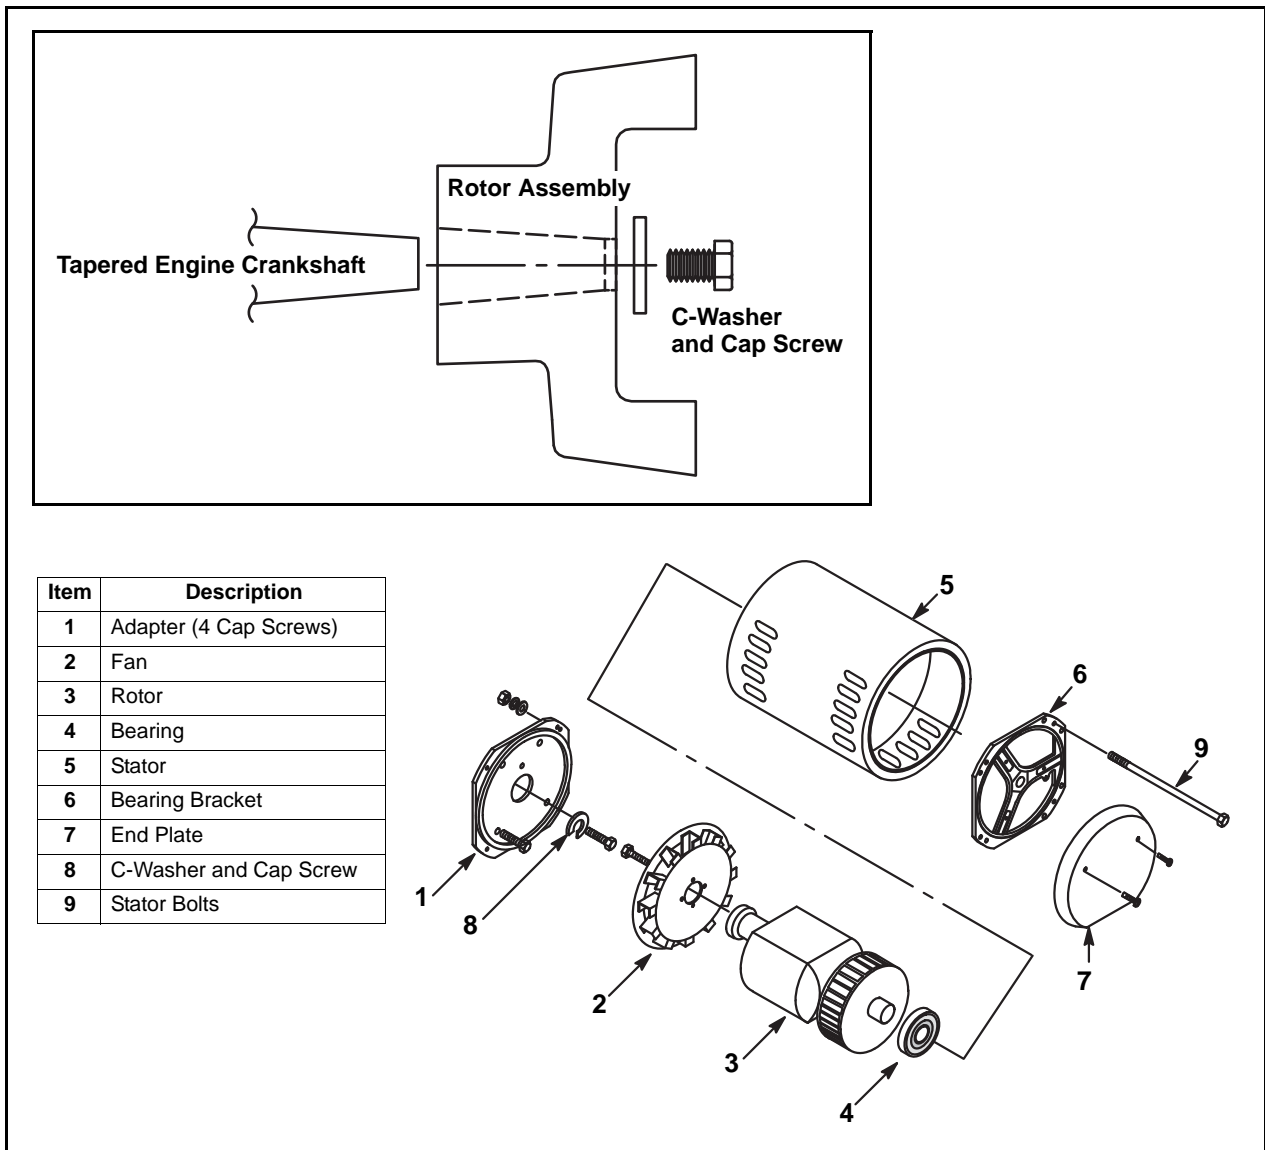

Figure 1-1. Typical Generator Assembly and Components
The insert of Figure 1-1 shows the adapter face as viewed from the engine output shaft and how the rotor assembly attaches to the engine crankshaft. The bottom illustration shows the disassembly/assembly process.
See Figure 1-1.
3. Slide the C-washer between the bolt head and the engine shaft, see Figure 1-1.